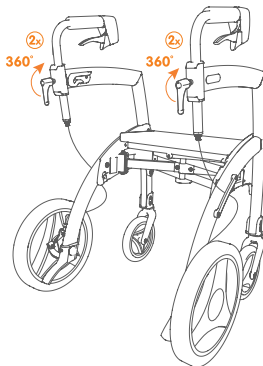

Figure 16A: Tighten the adjustment handles.
- f.** Turn the adjustment handles clockwise to tighten them (**Figure 16A and 16B**).